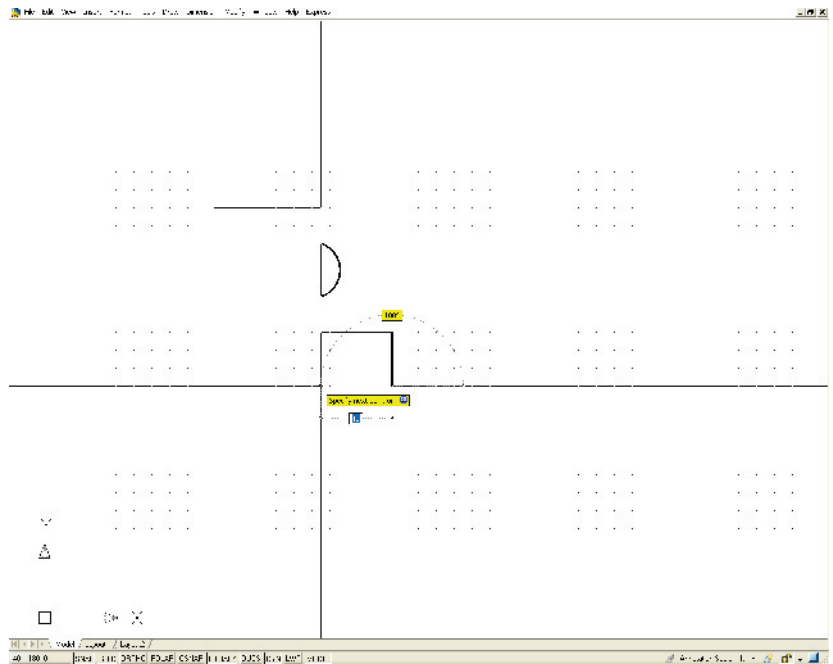

Fig. 3.20 Example of using **DYN – Polyline**
1. A *click* on the **Clean Screen** icon at the bottom right-hand corner of the AutoCAD 2008 window produces an uncluttered workspace area with only the menu bar (Fig. 3.20). The command palette can also be cleared from screen by *entering* **commandlinehide** at the command line. To bring it back press the keys **Ctrl+9**. Some operators may well prefer working in such a larger than normal workspace. All the tool names or abbreviations can be *entered* at the keyboard. Thus working with **DYN** set on can be of benefit to those who prefer doing so.